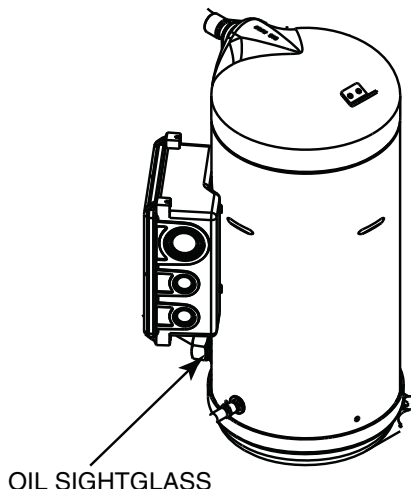

Fig. 23 — Sight Glass Location
5. Oil should be visible in the compressor sightglass(es). See Fig. 23. An acceptable oil level in the compressors is from $\frac{1}{8}$ to $\frac{3}{8}$ of sight glass. Adjust the oil level as required. See Oil Charge section on page 50 for Carrier approved oils.